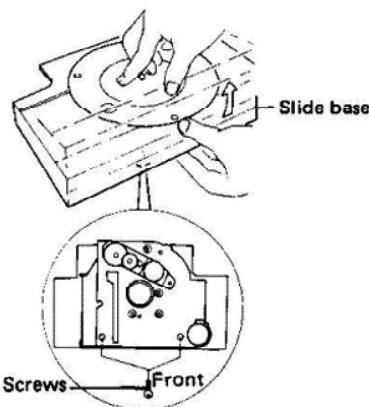

Fig. 5-5 Slide Base Removal
- The slide base cover is secured to the slide base by hooks. The two front positions are secured by screws. Undo these two screws as shown in Fig. 5-5, and while holding the turntable platter down, remove the slide base by lifting the front.